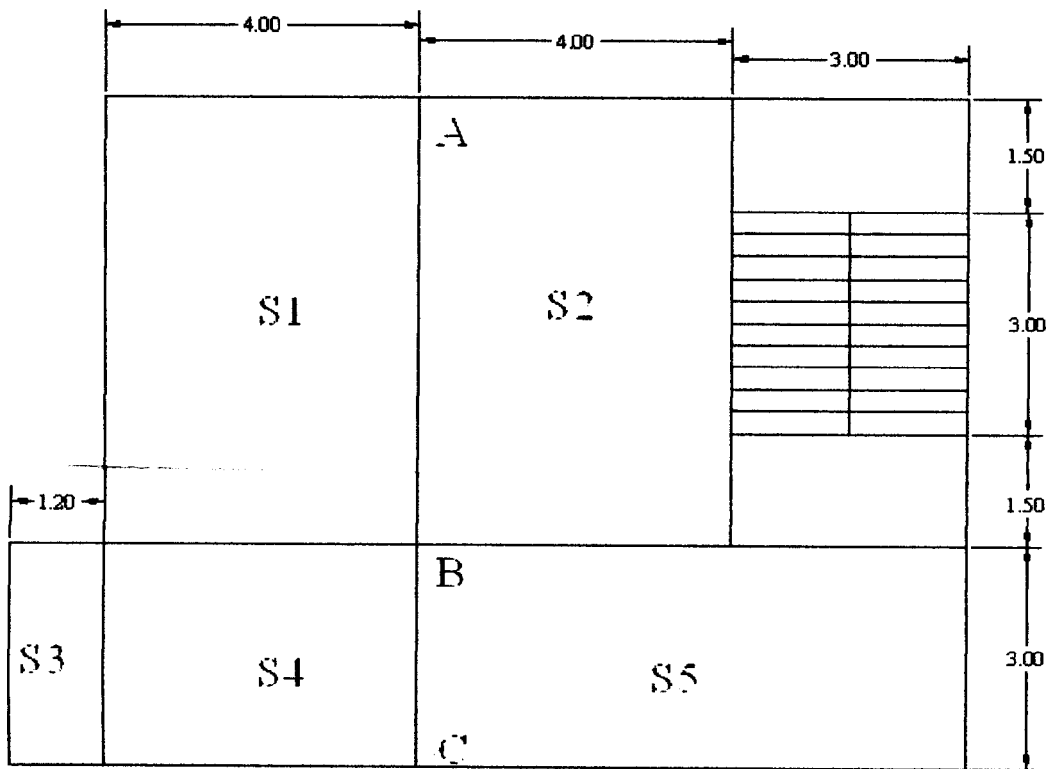

Fig 1
3. The center line plan of a typical floor of building is as shown in Fig. 1. Design the floor slabs only for flexure. Draw neat sketches showing details of main reinforcement and torsional reinforcement. Use M 20 and Fe 415. 25
4. Design I and II flights of a dog legged staircase as shown in Fig. 1 for the following data: